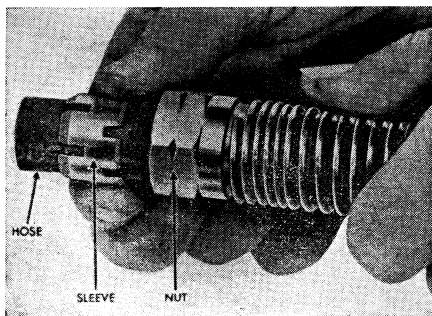

Fig. 35 Installing connector nut and sleeve on hose
5. Place connector nut and sleeve on hose, Fig. 35, being sure that barbs on inside of sleeve point toward end of hose that is being connected.